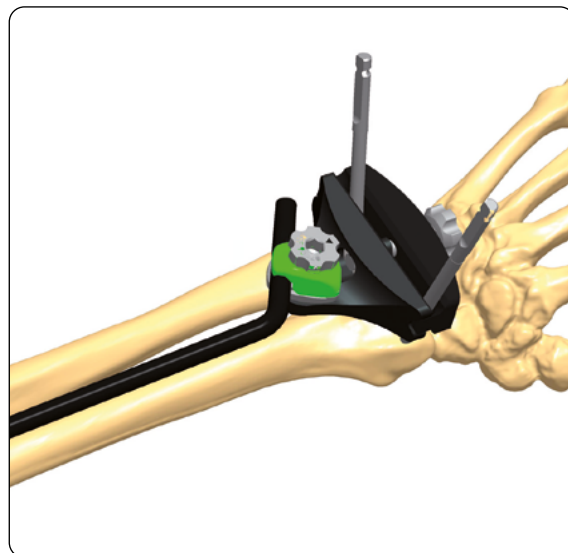

Fig. 36
- Close the clamp by hand (**Fig. 36**)